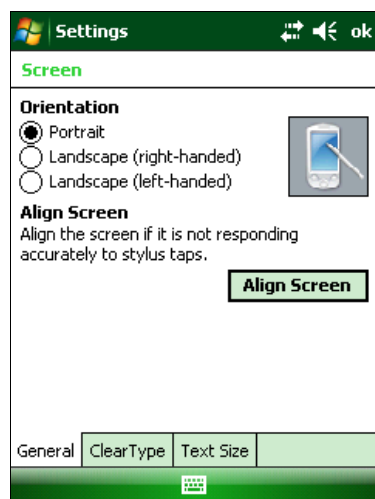

Figure 3
1. Select **Start > Settings > System > Screen** to open the **Screen Settings** dialog as shown in Figure 3.